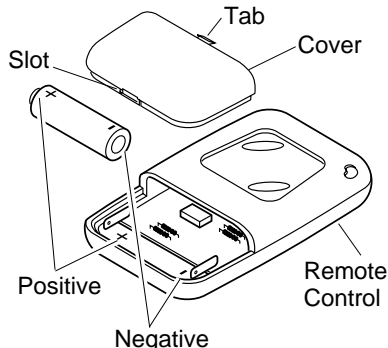

Figure 48 - Installing Battery
1. Locate slot at bottom of remote control (see Figure 48). Firmly insert tool such as a small screwdriver, butter knife, or dime into the slot and lift up to remove cover.